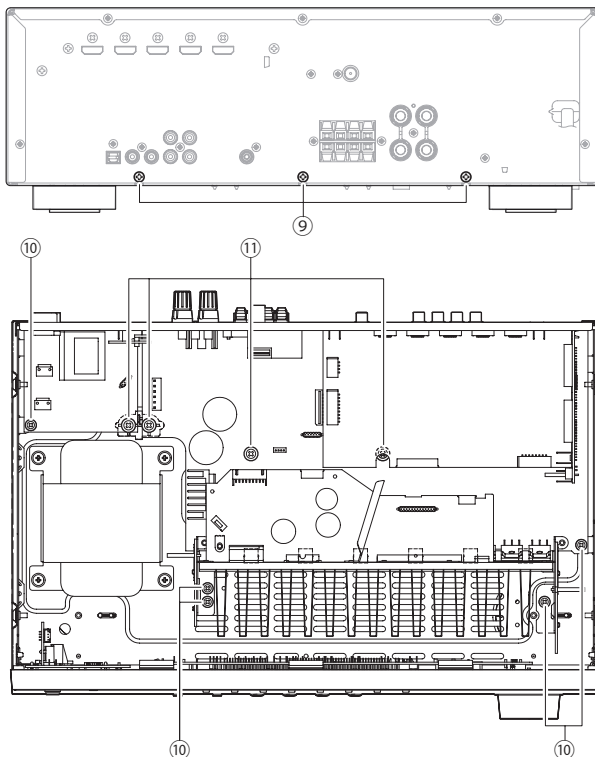

Fig. 5
**When checking the MAIN (1) P.C.B.**
- Remove 3 screws (9). (Fig. 5)
- Remove 5 screws (10) and 4 screws (11). (Fig. 5)